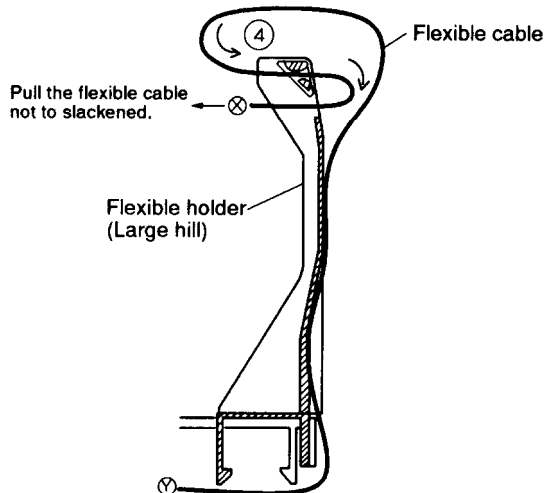

Fig. 17 Sectional plan of the flexible holder
4. Pull the flexible cable not to slackened after passing the (X) edge side of flexible cable through the flexible holder as shown in Fig. 17.